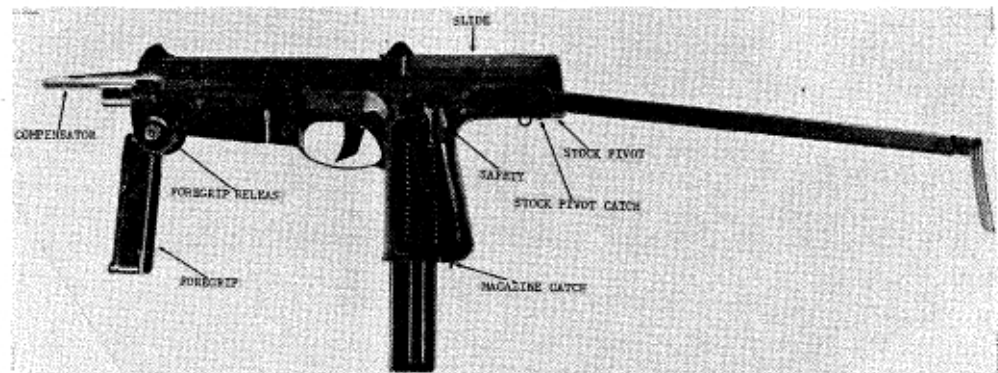

Figure 28. Polish Wz63 machine pistol,
The Wz63 machine pistol (fig 28) has been issued only to Polish Army units. This weapon is similar in concept to the Czechoslovak Skorpion machine pistol (para 37); however, the Polish pistol fires the more powerful 9x18-mm Makarov cartridge (sec VI). The Wz63 has a folding stock, and the forestock can be swung down for use as a second handgrip. The slide has an extension that protrudes beyond the muzzle to act as a compensator to reduce muzzle climb in automatic fire. The Wz63 commences its firing cycle from the open bolt position (fig 28.1), and its mode of fire, full or semiautomatic, is controlled by the amount of pressure applied to the trigger.
a. To operate the Wz63 machine pistol, first load the magazine in the same manner as the Makarov pistol magazine (para 3a). Insert a loaded magazine into the butt of the pistol until the magazine catch snaps into place. Grasp the slide at its rear end and pull it to the rear until it is caught by the sear. Alternatively, the compensator (fig 28) can be placed against a firm surface and the pistol can be pushed forward; this latter method is convenient in an emergency.
b. When preparing to fire at longer ranges, press the catch on the stock pivot (fig 28) upward and unfold the stock. Pull the forestock down for use as a handgrip. For short range firing, the stock and grip can remain folded and the Wz63 can be used as a conventional pistol. Flip the rear sight leaf rearward or forward for the desired range (the rearward leaf is used for 200-meter shooting) and rotate the safety to its horizontal position. Aim, using a normal pistol-type sight picture, and press the trigger to fire. Light pressure on the trigger will fire one shot; heavy pressure will cause the machine pistol to fire automatically. When the last round in the magazine has been fired, the slide will remain to the rear.
c. To clear the Wz63, press the magazine catch (fig 28) and remove the magazine. Pull the slide rearward and inspect to insure that no cartridges are present. Hold the slide, press the trigger, and ease the slide forward, and insert the magazine.